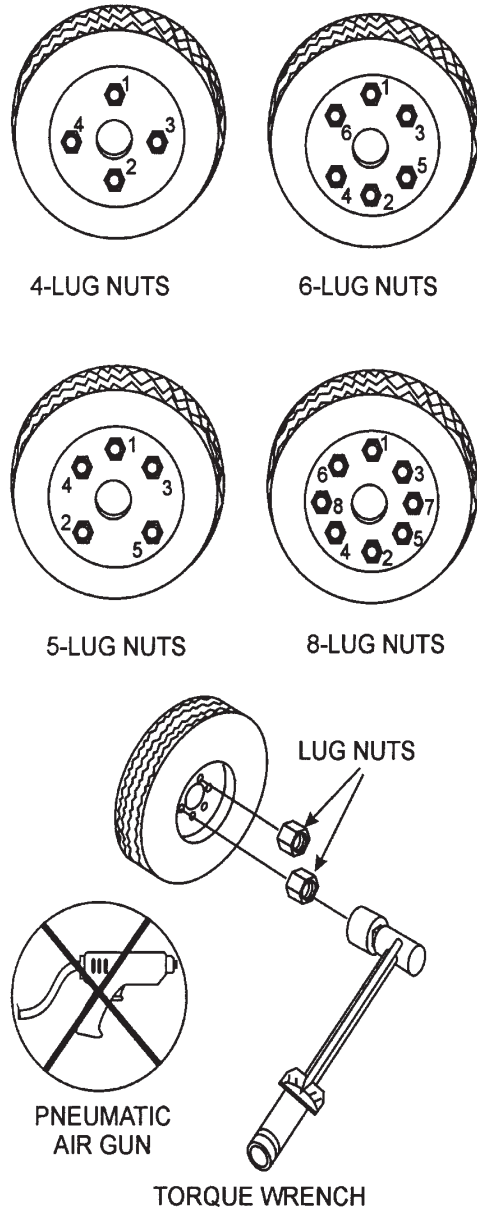

Figure 40. Wheel Lug Nuts Tightening Sequence
12. **Lug Nuts** — Used to secure the wheel to the wheel hub. Always use a torque wrench to tighten down the lug nuts. See Table 15 and Figure 40 for lug nut tightening and sequence.
2. Torque all lug nuts in sequence (Figure 40). **DO NOT** torque the wheel lug nuts all the way down. Tighten each lug nut in 3 separate passes as defined by Table 15.